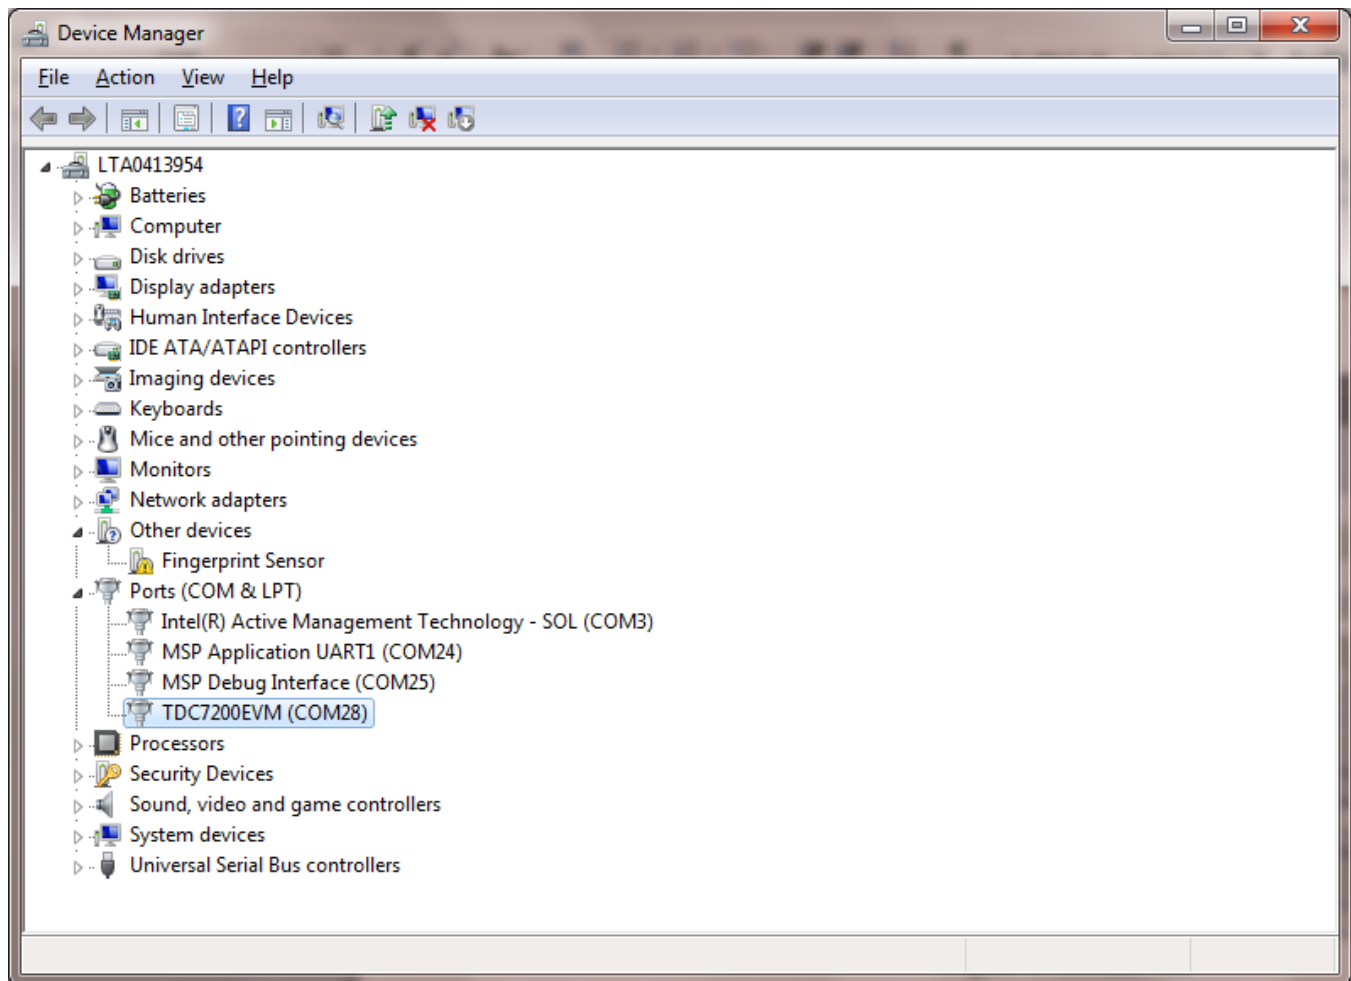

Figure 3. Device Manager
4. Scroll down to **Ports (COM & LPT)** and check **TDC7200EVM (COMx)** connection as shown in Figure 3.